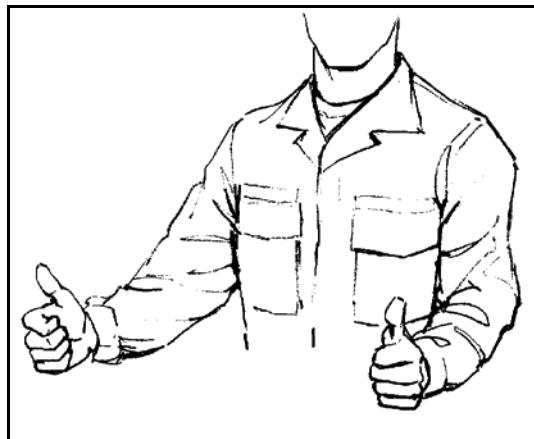

Figure 1-5. Example of arm-and-hand signal GET READY.
- (1) *Get Ready*—Rappel master or lane NCO extends both arms to the front with fists clenched and thumbs pointing upward (Figure 1-5). This alerts the rappeller. Each rappeller looks over his brake hand shoulder to check for the belay man. The rappeller then looks at the rappel master. The rappel master or lane NCO makes his second check of the hookup, rappel seat, snaplink, and equipment.